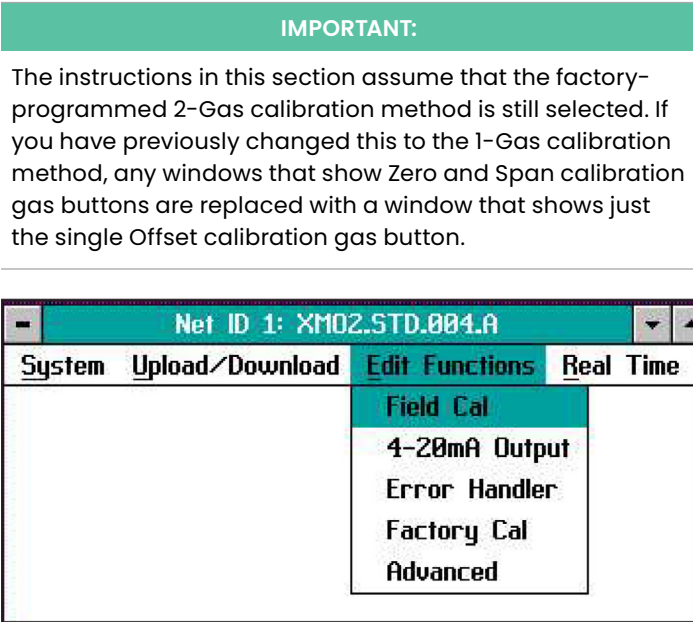

Figure 13: Field cal window
3. Click on the Field Cal option. In the Field Cal window (shown in *Figure 13 on page 20*), click on the Configure Cal button.
The following three buttons appear at the right of all menu windows (see *Figure 13* on page 20):
When you select the Field Cal option, a window similar to the one in *Figure 13* below opens.
**Note:** Clicking on the Next Item/Enter button selects the option listed on the status line above the option buttons (Perform Cal in *Figure 13* above). The option listed on the status line in any window is the option that was chosen the last time that menu was used.